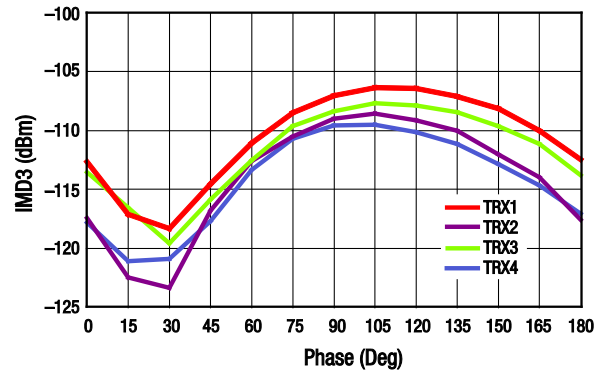
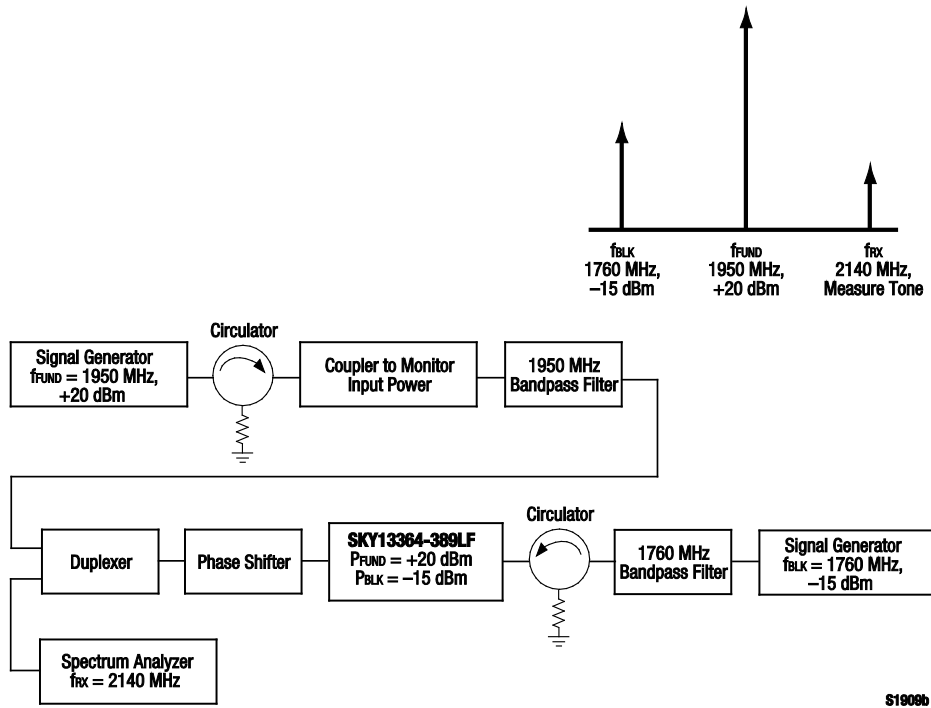

Figure 12. 3rd Order Intermodulation Distortion vs Phase, TRX Ports ($P_{FUND} = 1.95$ GHz, $f_{BLK} = 1.76$ GHz, $f_{RX} = 2.14$ GHz)
Figure 15. 3rd Order Intermodulation Test Setup
Figure 15 illustrates the test setup used to measure data for Figure 12. This industry standardized test is used to simulate the WCDMA Band 1 linearity of the antenna switch. A +20 dBm Continuous Wave (CW) signal, P_{FUND}, is sequentially applied to the TRX1 through TRX4 ports, while a -15 dBm CW blocker signal, P_{BLK}, is applied to the ANT port.